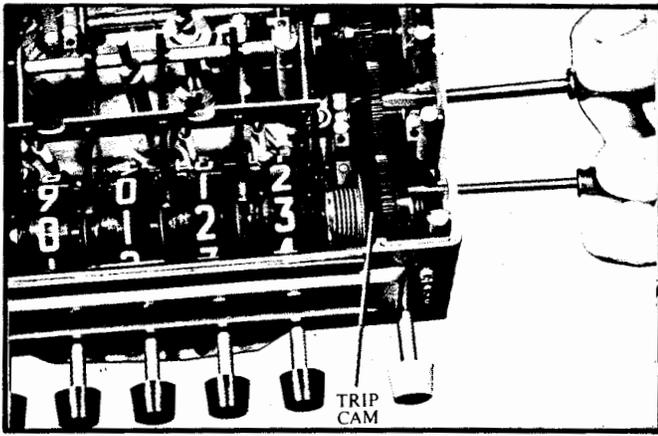

Figure 6-6 Trimming the Right-Hand Wheel.
- D. Insert a screwdriver into each trim hole and into the slots located on the side of the plastic parts (Refer to Figure 6-6). Use the rear screwdriver to hold the gear train stationary. The front screwdriver is used for prying the knock-off cam clockwise or counterclockwise until the zero (0) is centered in the display window on the Preset Counter.